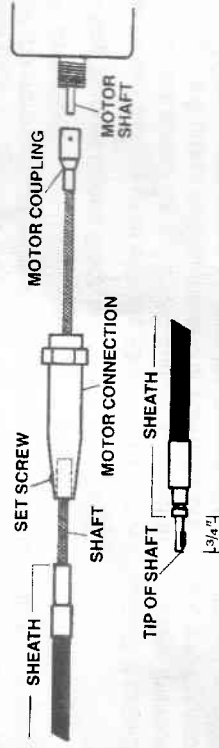

Figure 1
1. Remove the motor connector (see figure 1). This has a left hand thread and must be turned to the right to remove.